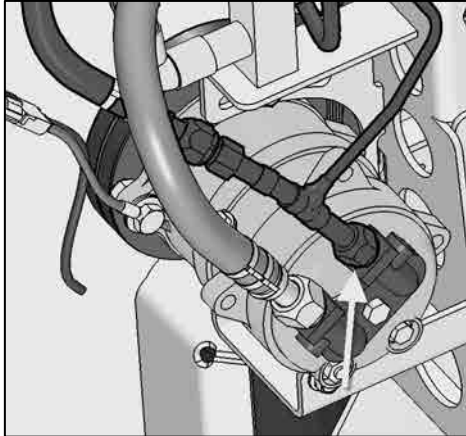
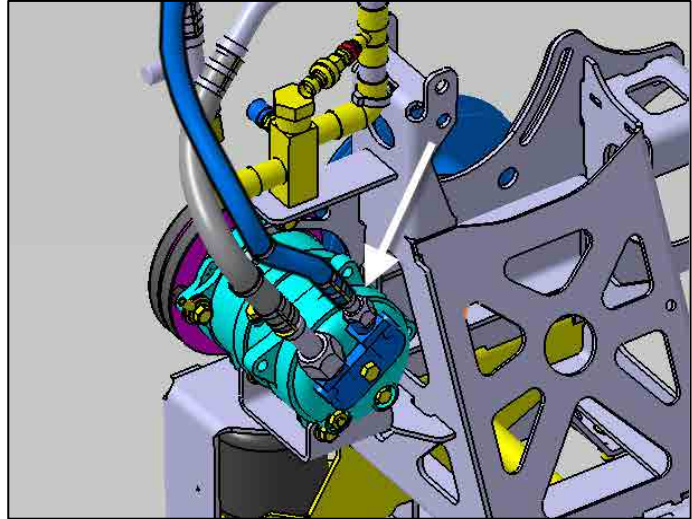

Figure 2 : Remove WB13-04 bypass if installed on vehicle.
Figure 3
3. Disconnect compressor side only of high pressure hose (Fig.3) and remove WB13-04 bypass piping, if installed (Fig. 2).